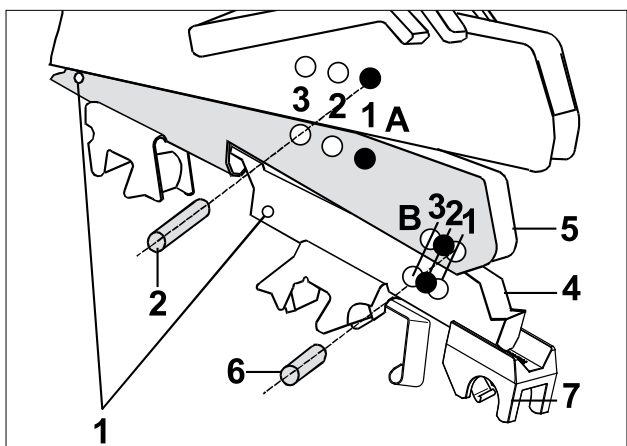

Fig. 7
- Insert the combination of front and rear distributor with *EliTe*® Take-up and new *EliSpring* in the guide arm and align the **A1** holes (Fig.7).